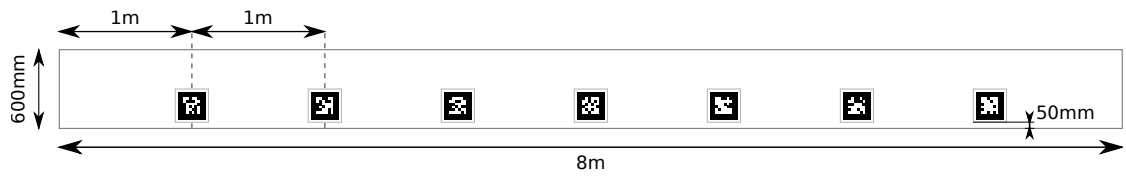

Figure 6: Seven 250mm wide markers are spaced evenly along each 8m arena wall. The markers are placed 50mm above the floor.
3.3.7 Each wall of the arena features seven 250mm libkoki markers. Figure 6 shows the positioning of these markers, whilst figure 5 shows the numbering of these markers.